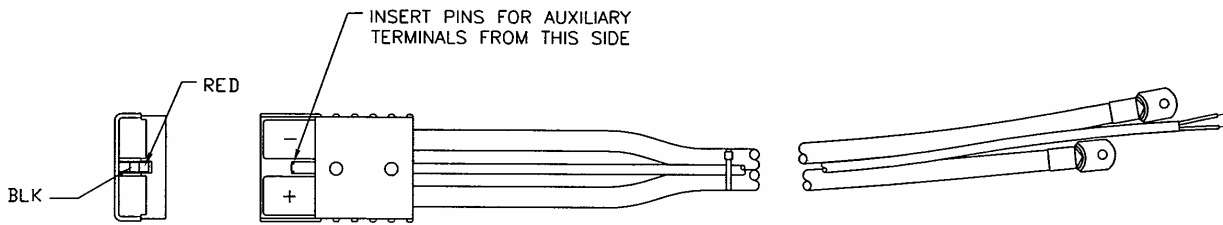

Fig. 5.3 Battery Cable with Auxiliary Contact Cable Harness
- Insert retaining pins into SBX connector, from the bottom, as shown in Figure. 5.3. Ensure pins are flush with surface of connector. Repeat last three steps for other connector.